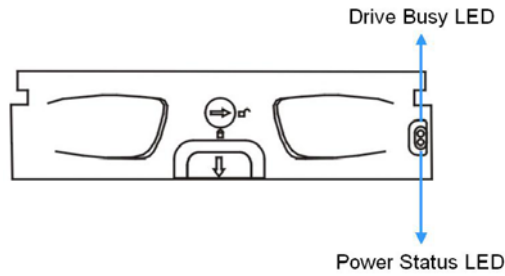

Figure 3-11: Drive Tray LEDs
Two (2) LED indicators are located on the right side of each drive tray. (See *Figure 3-11*) Refer to *Table 3-2* for the LED definitions. When notified by a drive failure message, you should check the drive tray indicators to find the correct location of the failed drive. Replacing the wrong drive can fail two members of a logical array (RAID 3/5) and thus destroy data in the array.